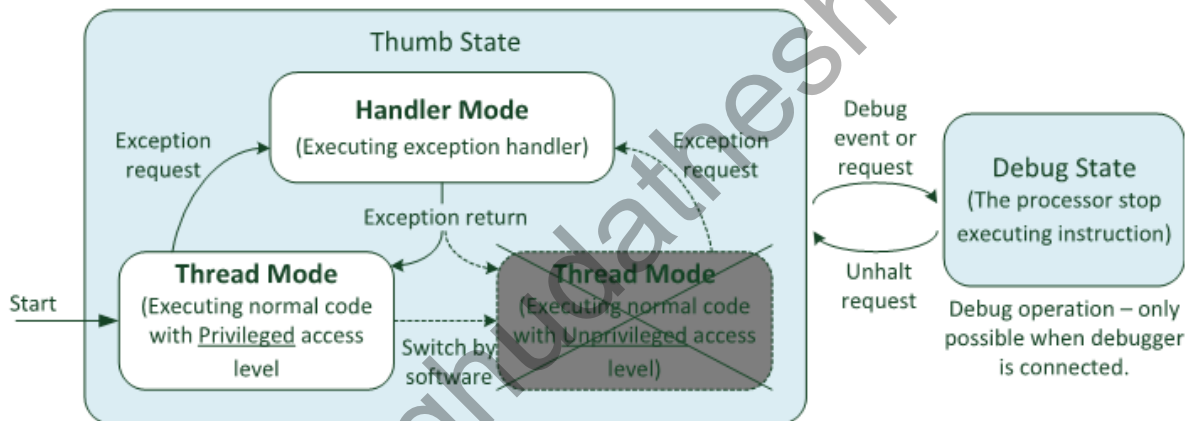

Figure 2: In simple applications, the unprivileged Thread mode can be unused
- However, Thread mode can switch to using a separate shadowed Stack Pointer (SP). This allows the stack memory for application tasks to be separated from the stack used by the OS kernel, thus allowing better system reliability.
- In many simple applications, there is no need to use the unprivileged Thread model and the shadowed SP at all as shown in figure 2 below. Unprivileged Thread model is not available in the Cortex-M0 processor, but is optional in the Cortex-M0+ processor.